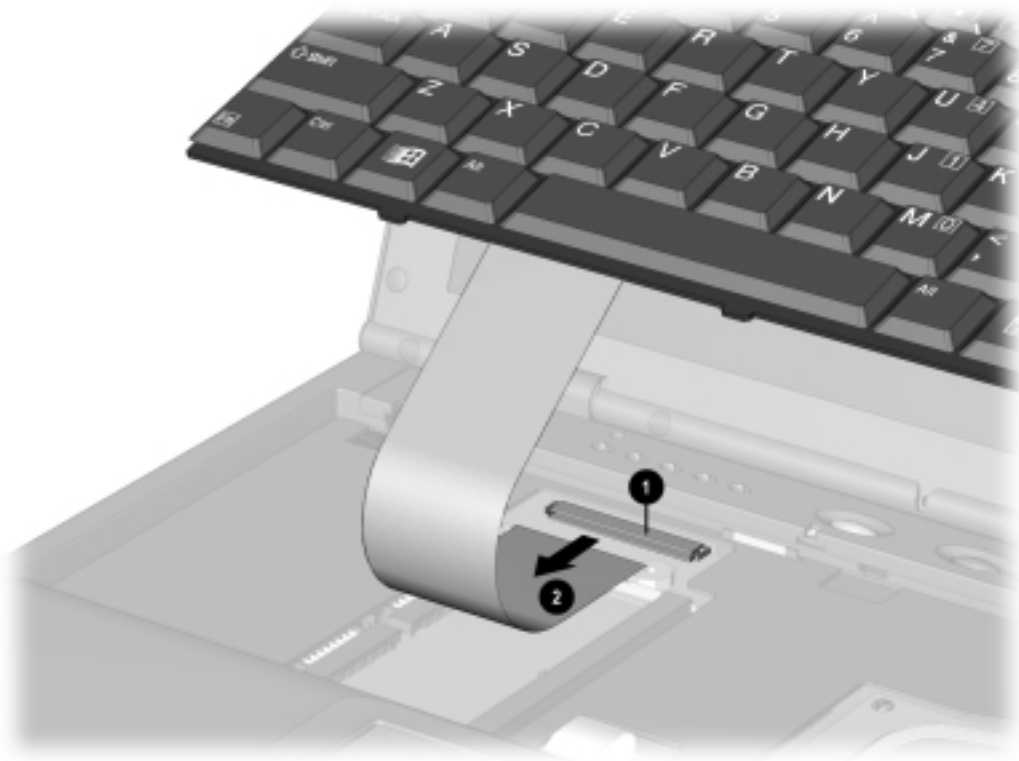

Figure 5-15. *Disconnecting the Keyboard Cable*
4. Use the connector removal tool to release the keyboard cable from the ZIF connector **❶** (Figure 5-15).
5. Use the connector removal tool to disconnect the keyboard cable **❷**.